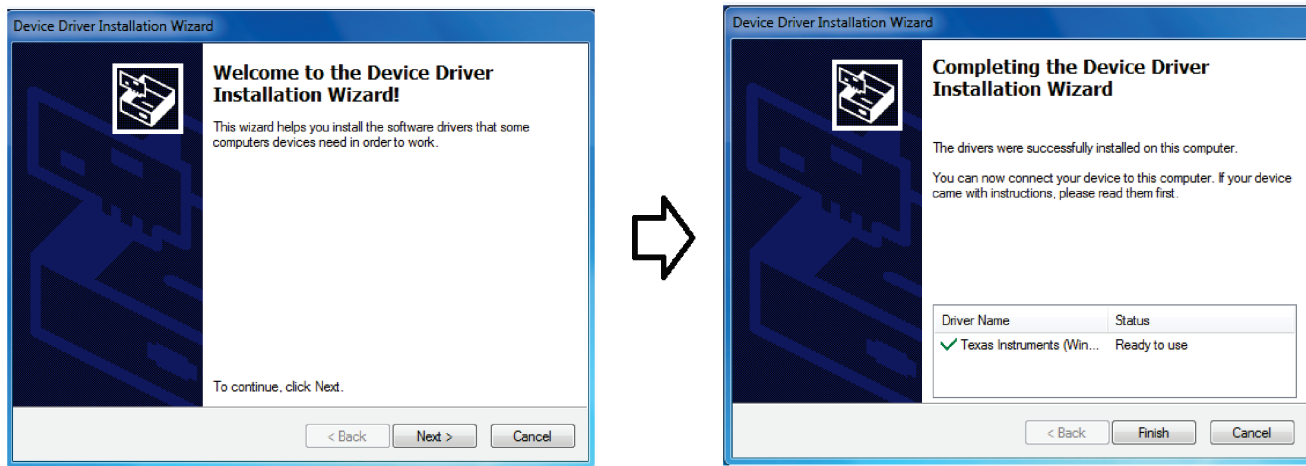

Figure 4. Device Driver Installation Wizard Prompts
- As a part of the ADS7056EVM GUI installation, a prompt with a Device Driver Installation Wizard appears on the screen (see Figure 4). Click the *Next* button to proceed, then click the *Finish* button when the installation is complete.